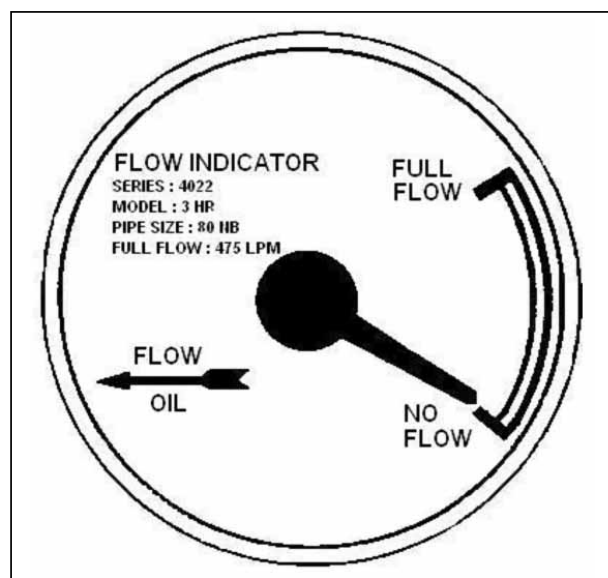

Fig. 2.25
- Indication markings: FULL FLOW, NO FLOW (Fig. 2.25)